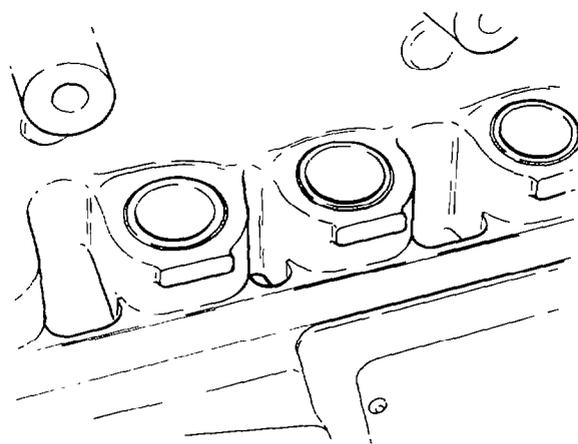

Figure 7 Camshaft Tappets
- d. Remove the side cover from the engine block on the camshaft side (refer to VEHICLE G603). Withdraw the pushrod tappets from the engine block (see Fig 7).